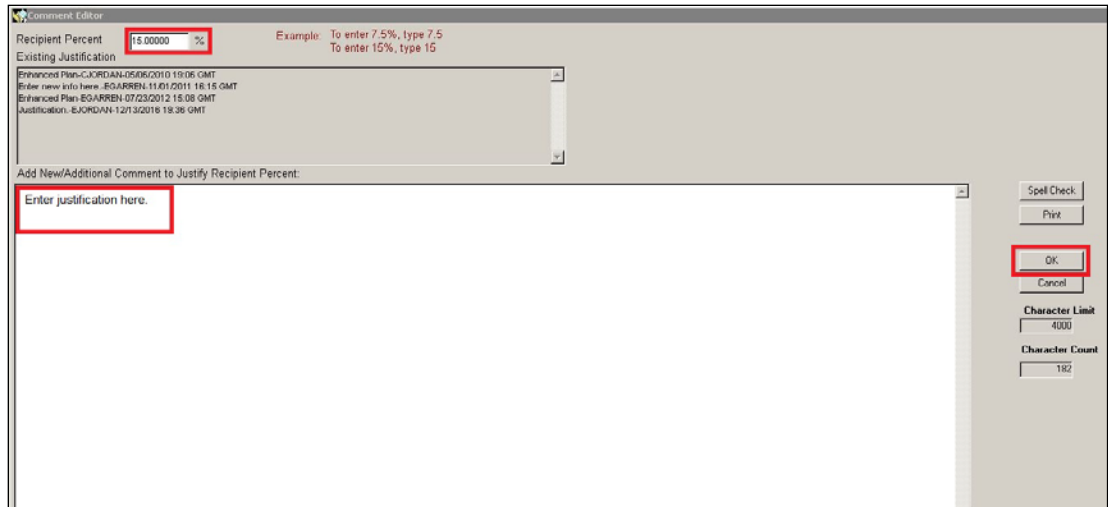

Figure 3-27: Edit Percentage
- d. Click the OK button (Figure 3-27).